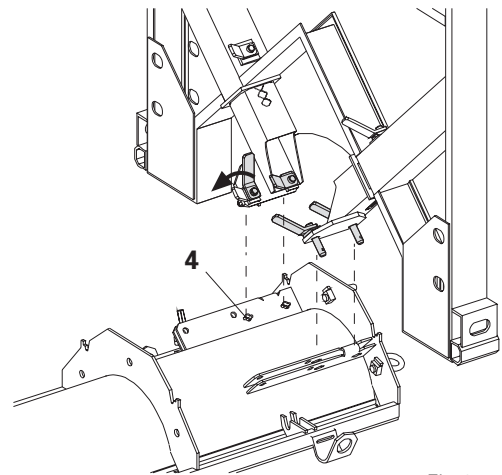

Fig.6
3. Use two site personnel to stand the platform up and insert into the holes **4** of the column element. Fig. 6